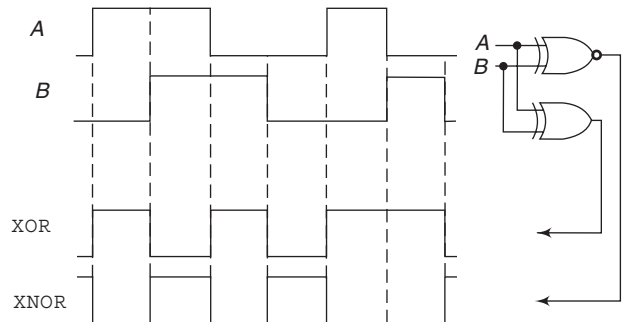

Fig. 4.80 Pulsed XOR and XNOR Gate Operation.
4.67 Determine the output waveforms for the XOR gate and the XNOR gate, given the input waveforms, A and B, in Fig. 4.80.
The output waveforms are shown in Fig. 4.80. The XOR output is HIGH only when both inputs are at opposite levels. The XNOR output is HIGH only when both inputs are the same.